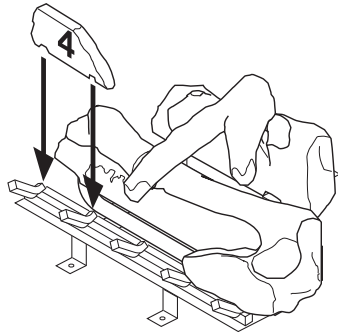

Figure 29 - Installing Log No. 4
5. Place log #4 (small log) onto front left part of grate making sure the notches fits over the prong of the grate. See Figure 29, page 19.